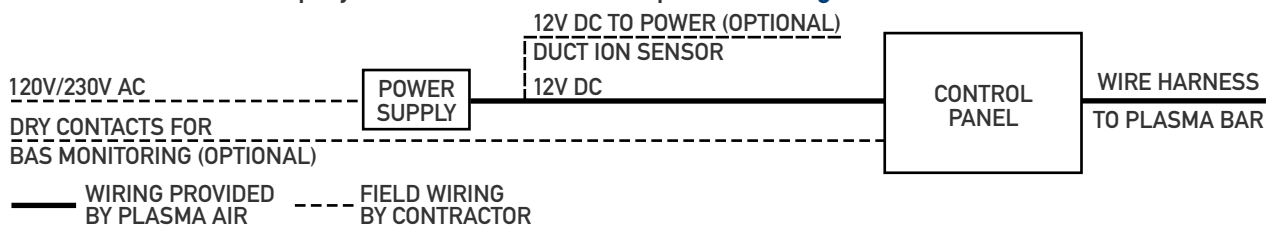

FIGURE 3
- OPTION 1:** Connect 24V AC directly to the power input terminal block on the control panel where indicated. The line and neutral wires can be connected to either screw terminal. (See Figure 3 & 4).
- OPTION 2:** Use a factory supplied 120V/230V AC to 12V DC power supply. A 12V DC 2.1mm pin connector shall be inserted into the 12V DC pin jack located on the control panel. (See Figure 3 & 4). Do not use an extension cord.